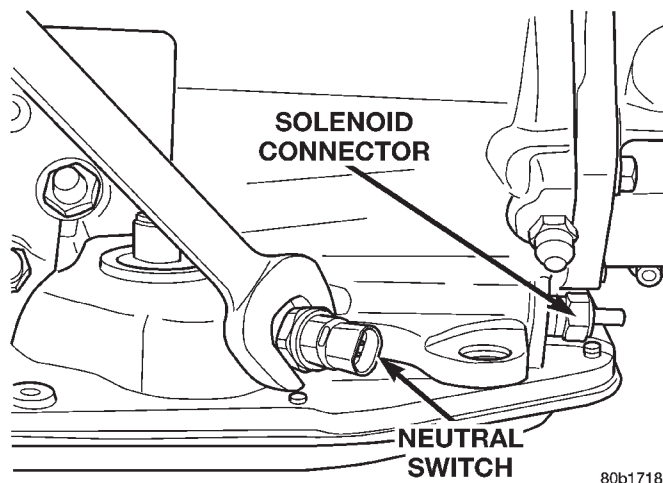
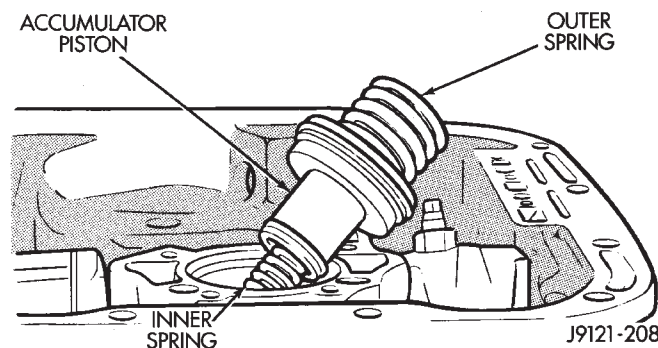

Fig. 99 Park/Neutral Position Switch
Fig. 100 Accumulator Component Removal
- (8) Remove fluid pan and filter.
- (9) Remove park/neutral position switch and seal (Fig. 99).
- (10) Remove valve body and electronic governor.
- (11) Remove accumulator outer spring, piston and inner spring (Fig. 100). Note position of piston and springs for assembly reference. Remove and discard piston seals if worn or cut.